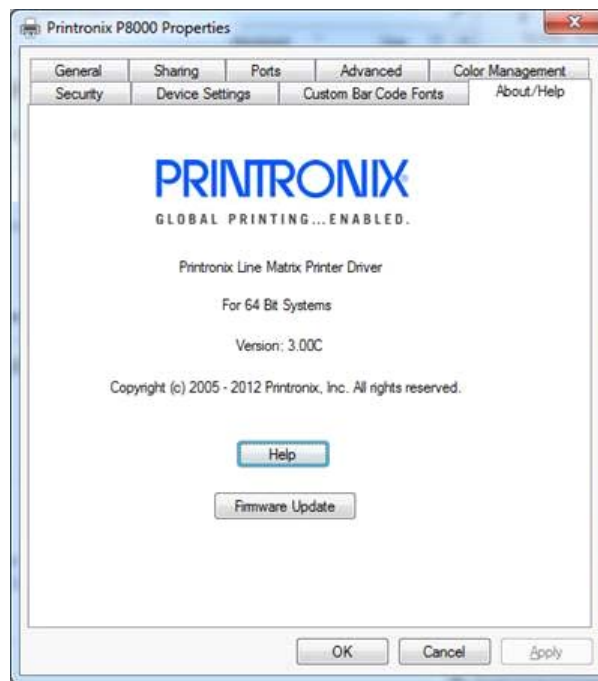

Figure 5. Updating Firmware
5. Click the **Firmware Update** button as in Figure 5.